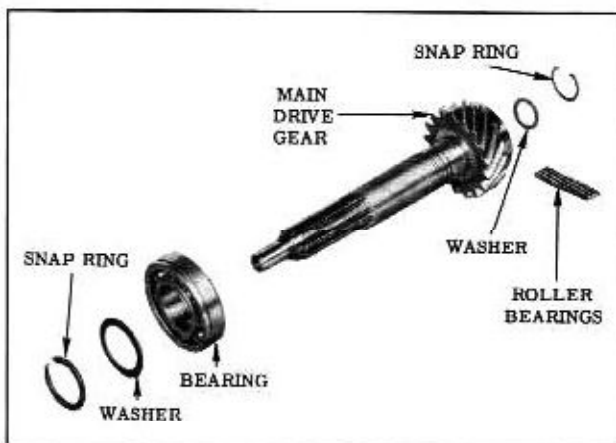

Fig. 11-21 Main Drive Gear Assembly
1. Remove the retaining ring and washer holding the main drive gear bearing to the main drive gear. (Fig. 11-21)